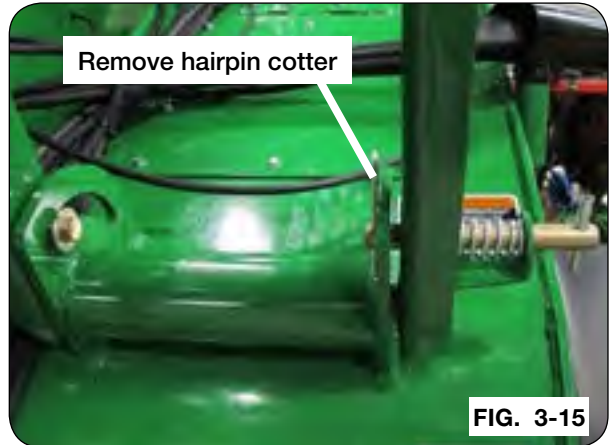
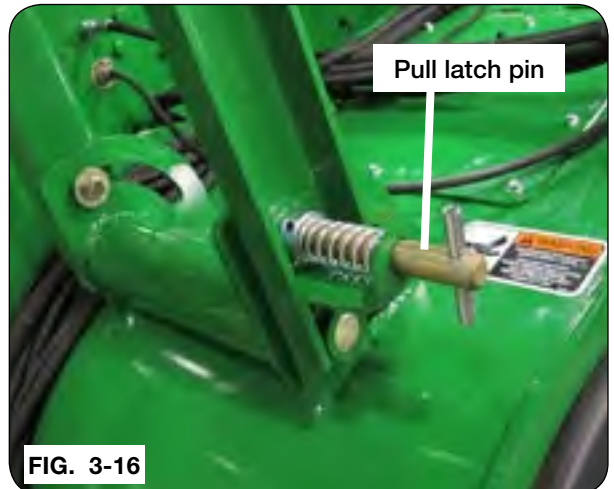

FIG. 3-15
FIG. 3-16
2. Remove hairpin cotter from latch pin (Figure 3-15) and pull latch pin to disengage (Figure 3-16). Raise auger rest stand up to field position and release latch pin. Make sure the pin is engaged in the field position hole and re-install hairpin removed earlier in this step.